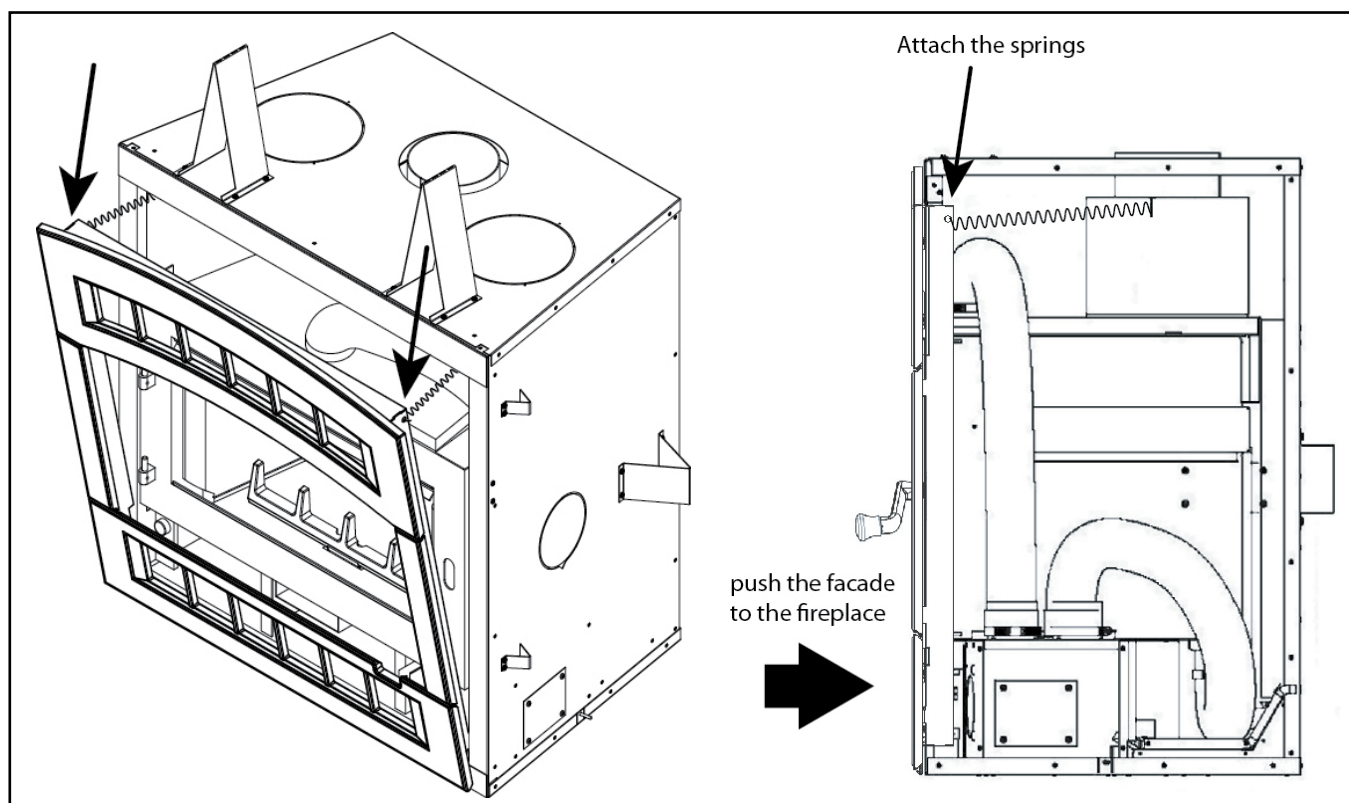

Figure 23
3. Firmly push the facade to the fireplace to secure the bottom. (Figure 23)